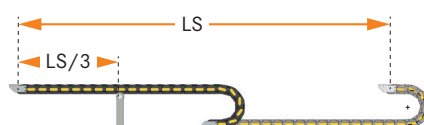

Fig. 3
Vertical separator for “T” and “L” shape (Fig. 3)
- Supported application with 1 support roller on the extended side of the stroke → $SSL = LS/3$ (single support roller should be positioned at a distance of $LS/3$ from the extended end of the stroke) (**Fig. 3**)